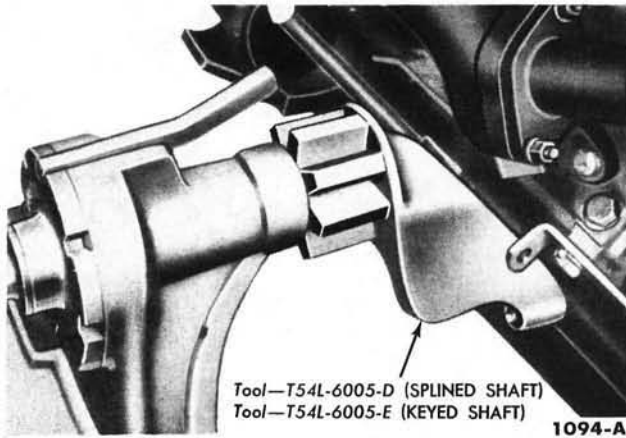

FIG. 11—Engine Mount—292 Engine
4. Support the transmission and attach the engine lifting hooks (tool T53L-6000-B) and sling (tool T53L-300-A). Raise the engine slightly, then carefully pull the engine from the transmission. Lift the engine out of the engine compartment. Install the engine on a work stand (Fig. 11 or 12). **On a 302 or 332 engine, lower the engine on blocks and remove the right exhaust manifold and gasket. Remove the mount from the work stand and install it on the engine, then install the engine on the work stand.**
10. Remove the engine front support insulator bolts. Attach the engine lifting hooks (tool T53L-6000-B) and sling (tool T53L-300-A). Remove the engine and lower the engine on blocks and remove the right exhaust manifold and gasket. Remove the mount from the work stand and install it on the engine, then install the engine on the work stand (Fig. 11 or 12).